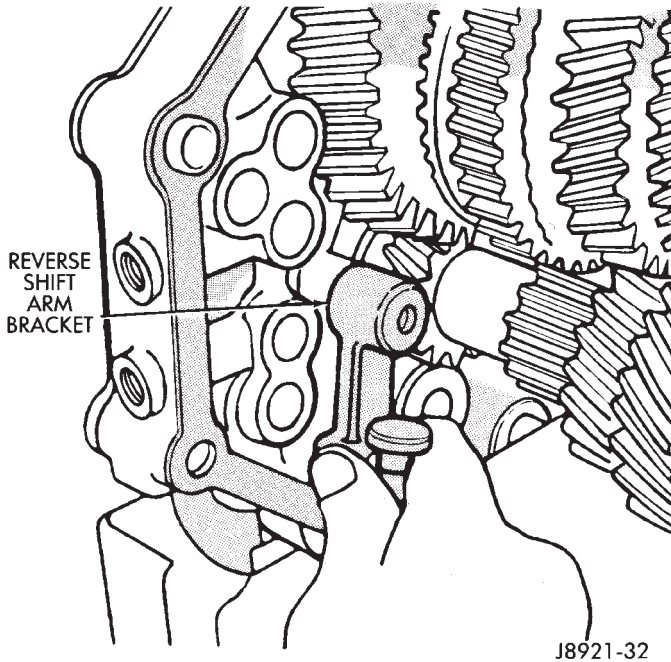

Fig. 24 Removing Reverse Shift Arm Bracket
(6) Remove reverse shift arm bracket (Fig. 24).